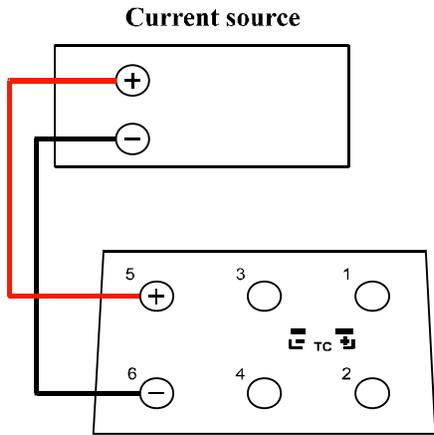

FIGURE 7
3. Hi Calibration: Connect a Current Source (Set to 24mA) to terminals 5 and 6 of the 830 (See figure 7). Press *STORE/RESET* and then press *TYPE/ENG UNITS*.